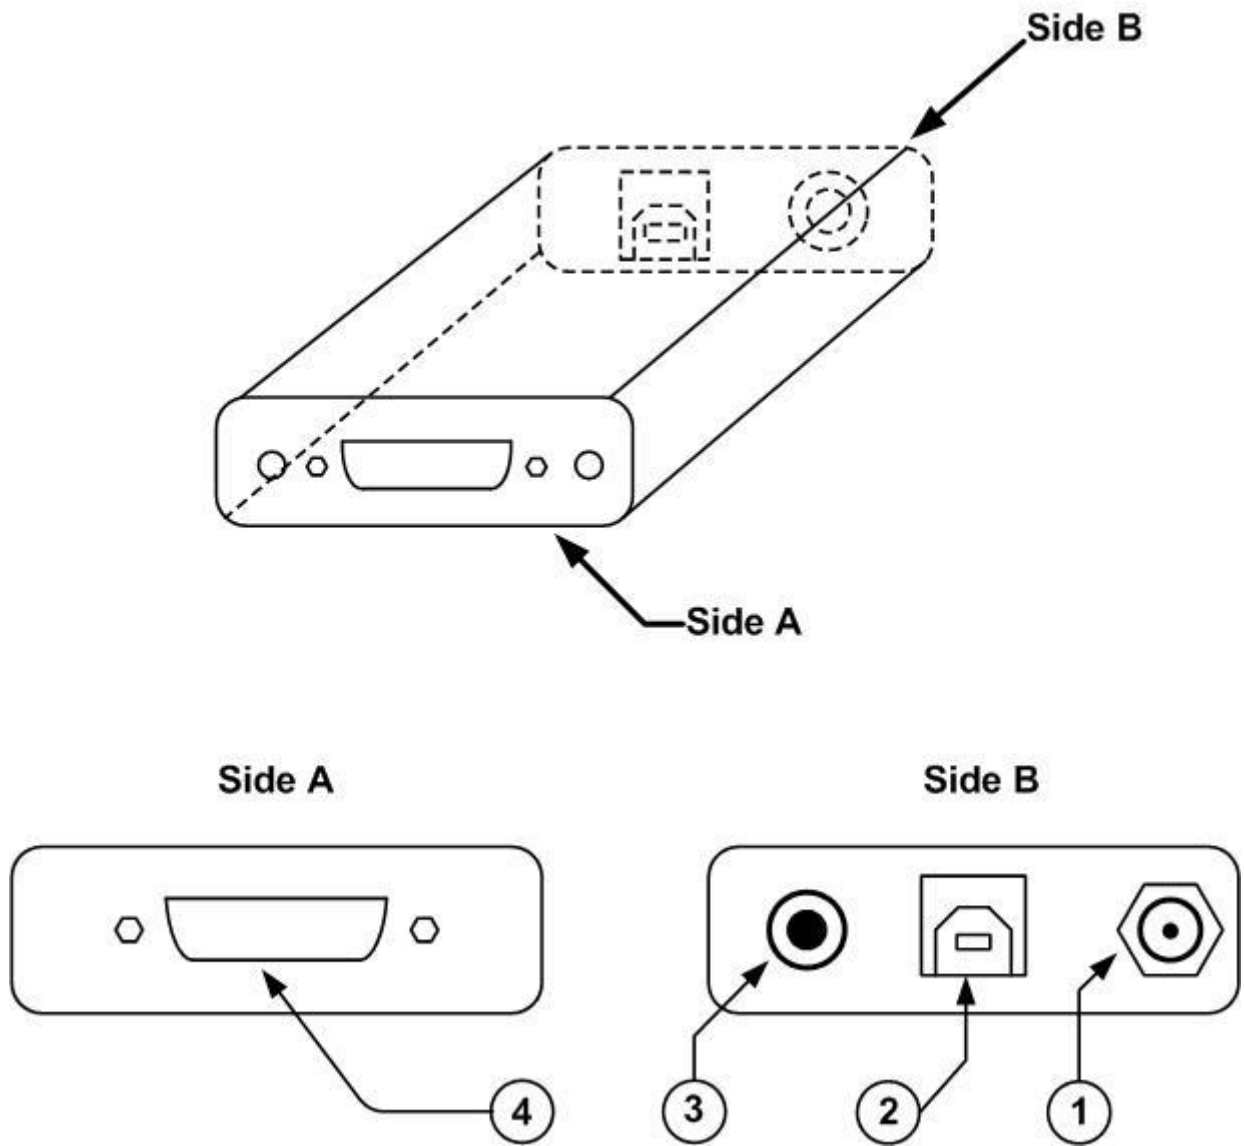

Fig. 3-1 11P-LINK Top Panel
3 Front Panel Description : See figure 3-1 below
- 3- Connect a version 5 (or higher) power or energy detector head to the 11P-LINK using the **PROBE INPUT JACK** (see Fig. 3-1) while the 11P-LINK is disconnected from the PC.